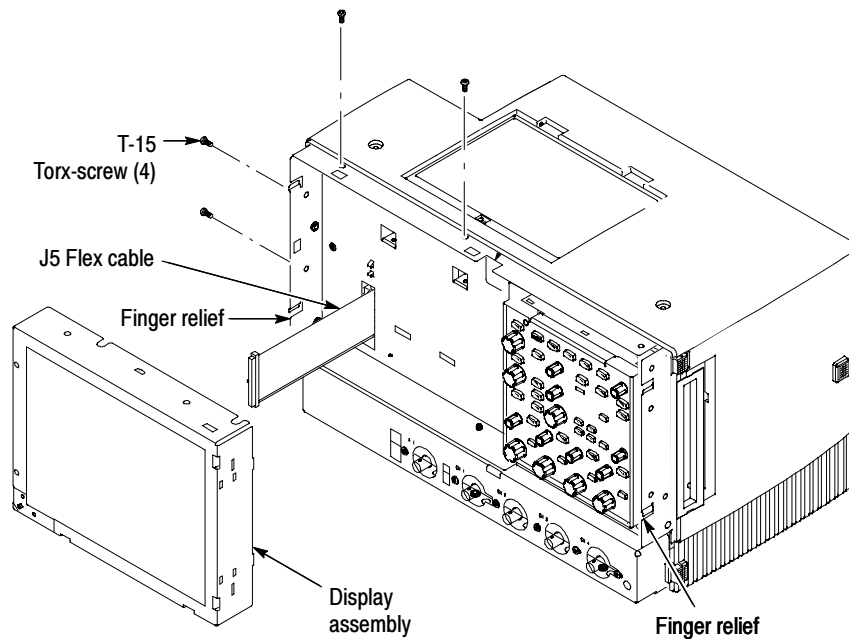

Figure 3: Display assembly removal
1. Locate the Display assembly, see Figure 3.
3. Remove the Display assembly: See Figure 3.